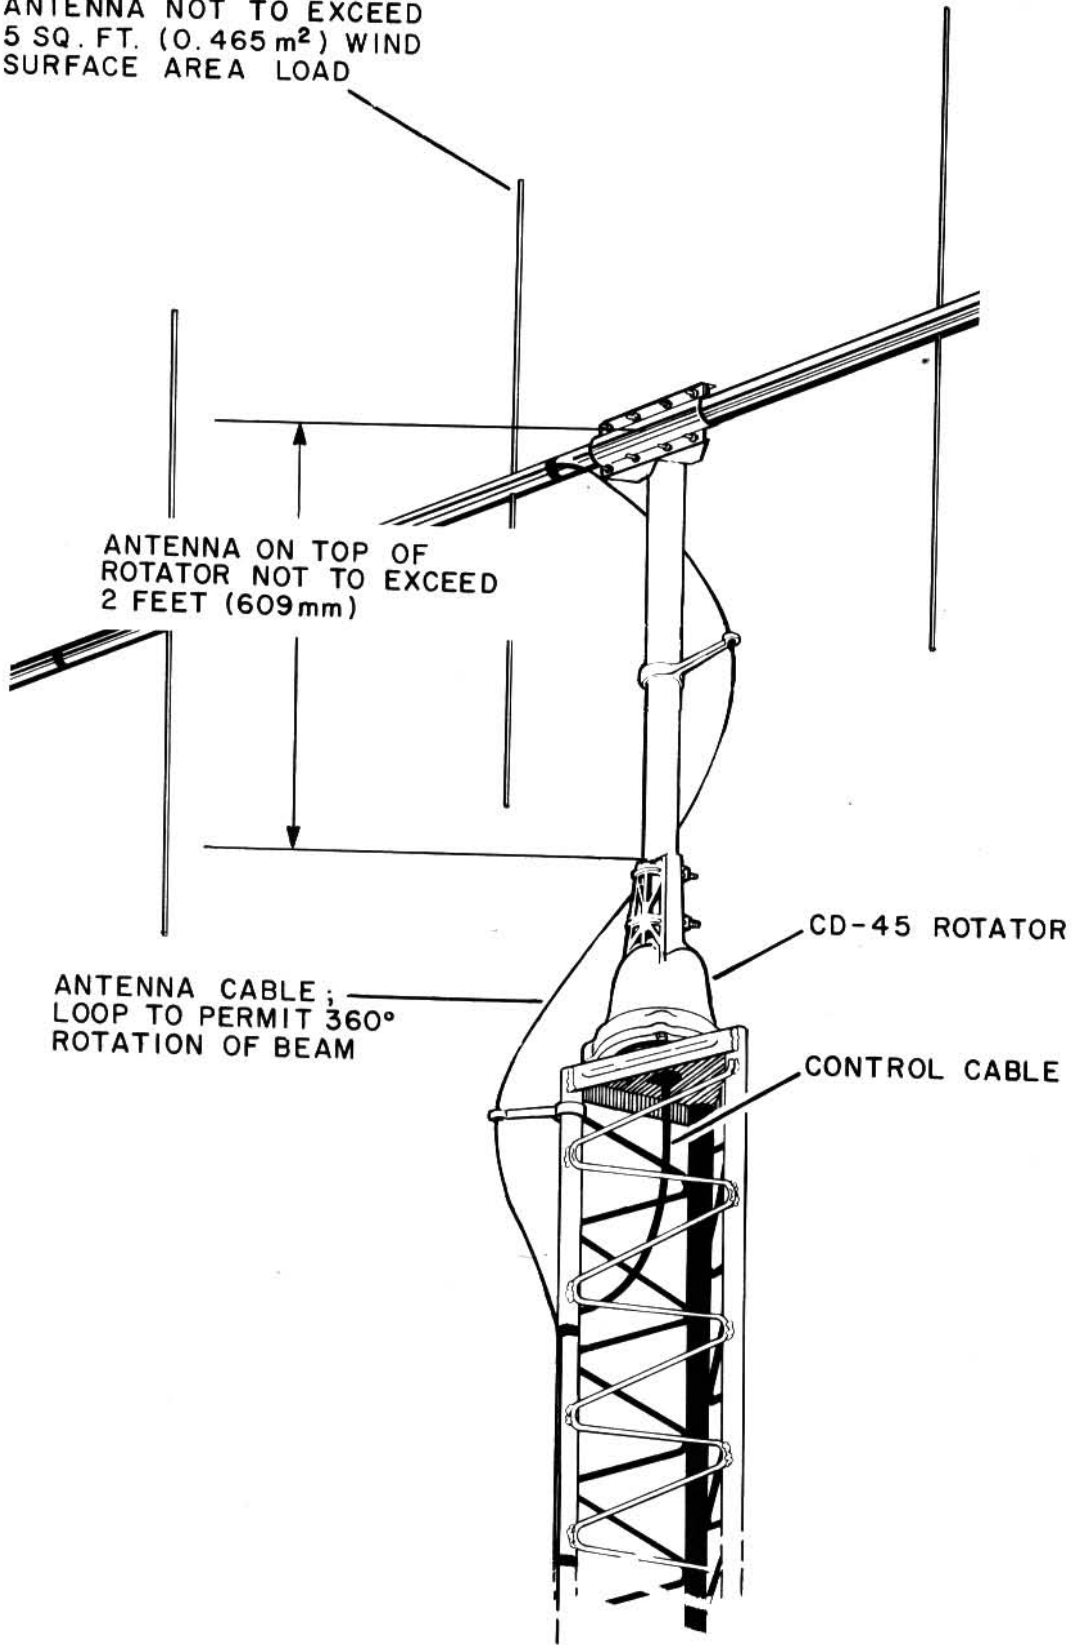

Figure 7
2. An "Outside" Tower Mount, as per Figure 7, is the best type of installation when not using an inside tower mount. The rotator is not as well protected but the installation is simpler.
1. Mounting the rotator on top of a tower is similar to the mast mounting except the lower mast support is not used. (See Figure 7.)
6. Connect the antenna cable to the antenna (follow manufacturer's recommendation). Make sure you have enough slack for the 360° rotation. (The antenna rotates "S" to "E" [counterclockwise] on the first turn, therefore, slack should wrap counterclockwise around the mast.) See Figure 7.